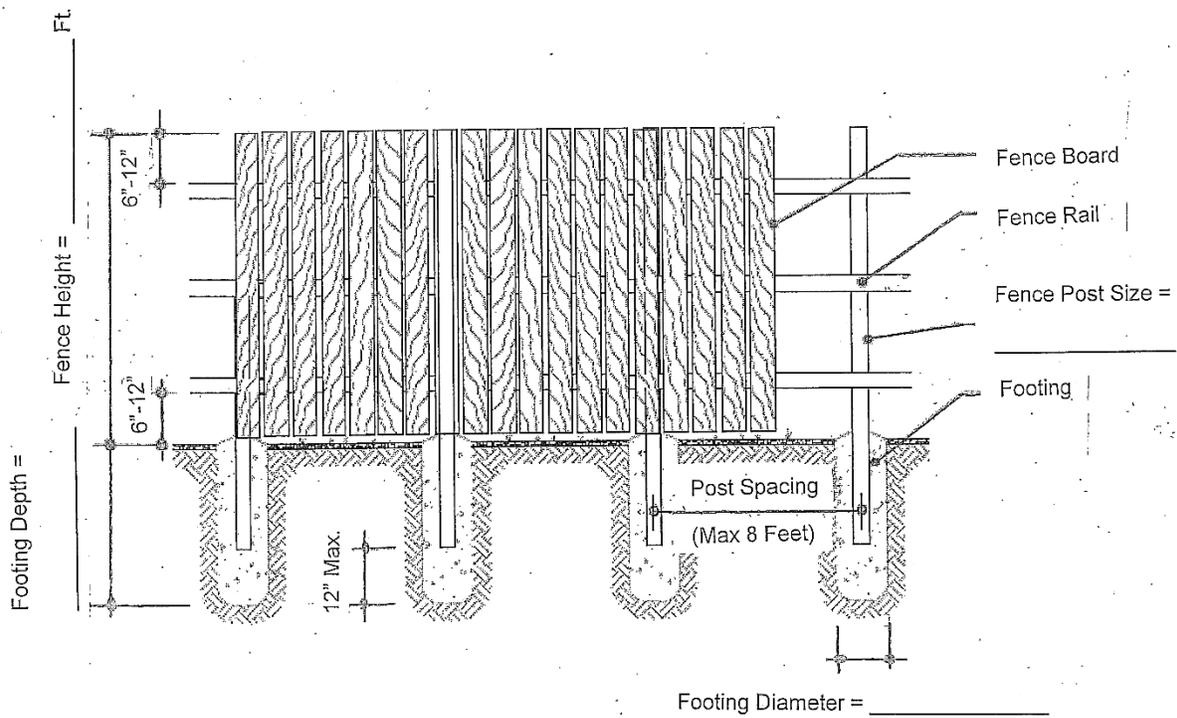

Figure 1
The detail in these plans will help you determine how big the footings, post, and deck rails need to be and how far apart they can be spaced (See Table 1 and Figure 1).
- 6) Determine how tall you want your fence. **Note:** The drawings contained in this document may show a typical solid fence with vertical fence boards; however, any type or configuration of fence board can be used. See Figure 1.